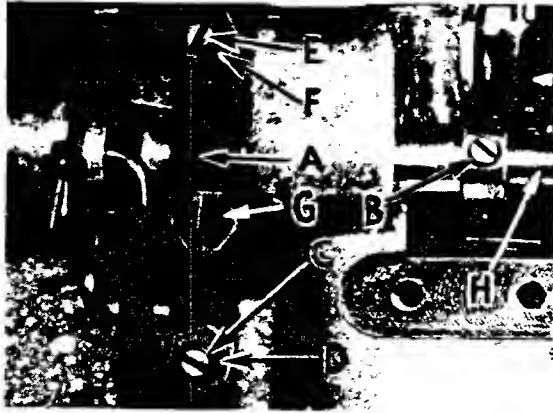

Fig. 16
Assemble the presser foot to presser arm. With needle in high position, swing presser arm into sewing position and set the presser foot to align needle holes (front and back) and flat on throat plate. The front edge of needle hole in presser foot must be aligned with front edge of needle hole in throat plate. It is also important that the bottom of the presser foot be flat on the throat plate. If necessary, presser foot can be re-aligned with throat plate slots by shifting the foot lifter lever shaft (H, Fig. 16). To move the shaft, loosen collar screws (B, Fig. 16) and clamp screw (G) and then shift the foot lifter lever shaft to the left or right as required. Retighten collar screws and clamp screw.
The foot lifter lever arm (A, Fig. 16) and the collar (B) secure the shaft. Be sure the presser arm does not bind and rise when presser foot release busing is unlocked.